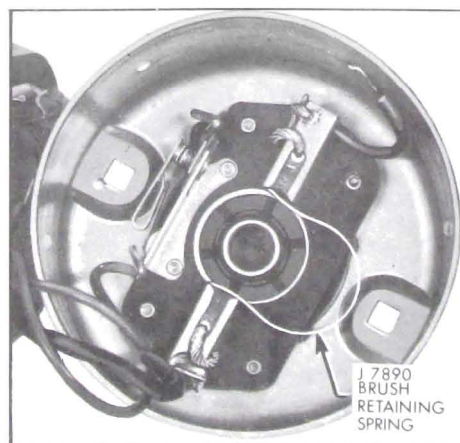

Figure 10-120—Installing Brush Retaining Spring
5. Pull the armature out of the case and install "U" shaped brush Retainer Spring J-7890 as shown in Figure 10-120. Remove spring installed in Step 4.